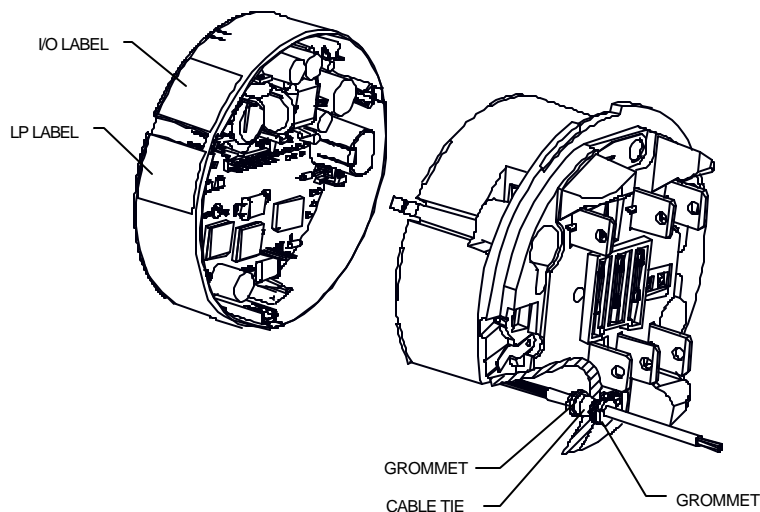

Figure 2-3. I/O Cable Installation
8. Remove backing from label and place on outside of module as shown in figure 2-3.
7. Remove backing from label and place on module as shown in figure 2-3.
9. Remove backing from labels and place on bezel as shown in figure 2-3.